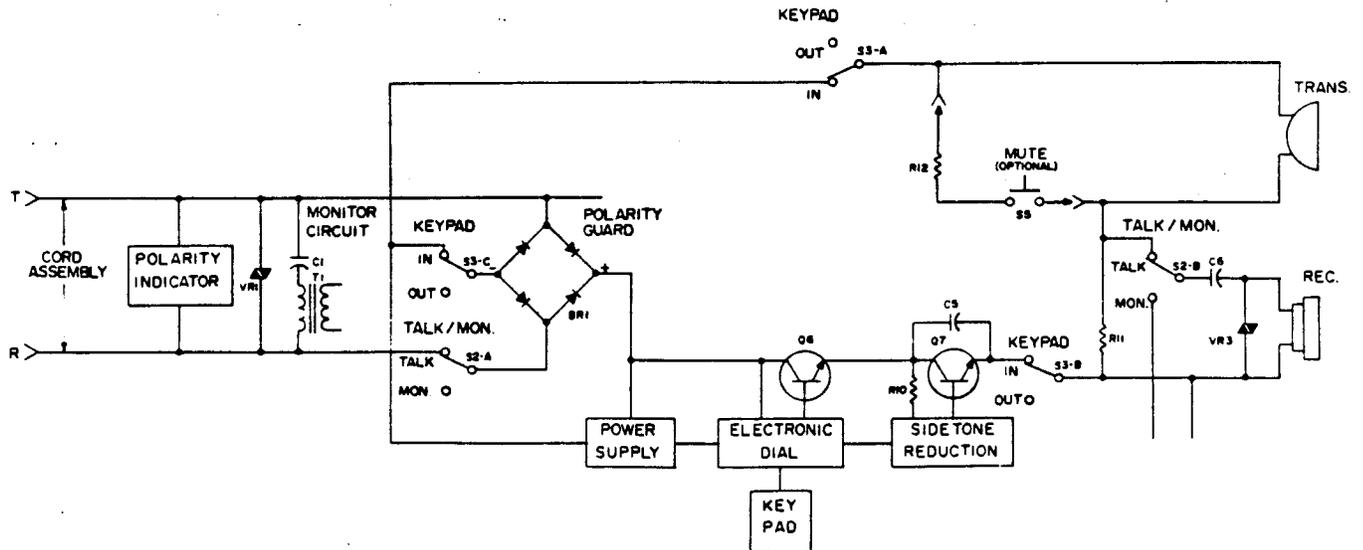

Fig. 6—Condensed Functional Schematic of TS21 Test Set (Talking and Dialing Mode)
5.06 Transmission Path (Fig. 6): In the T position, the TALK/MONITOR switch establishes a transmission path from the telephone line under test, via the tip conductor, one side of diode bridge BR1, the collector-emitter path of transistors Q6 and Q7 in series, section B of the KEYPAD IN/OUT switch in the IN position, to the receiver and transmitter, returning via sections A and C of the KEYPAD IN/OUT switch, diode bridge BR1, section A of the TALK/MONITOR switch in the T position to the ring conductor to the telephone line. VR3 is a silicon-carbide varistor used to limit the maximum output level of the receiver and prevent acoustic shocks to the user. C6 passes voice signals to the receiver, but blocks dc which could damage the receiver's permanent magnet. Resistor R11 provides a dc path for the transmitter, while limiting the current flow and providing the proper impedance to the loop.